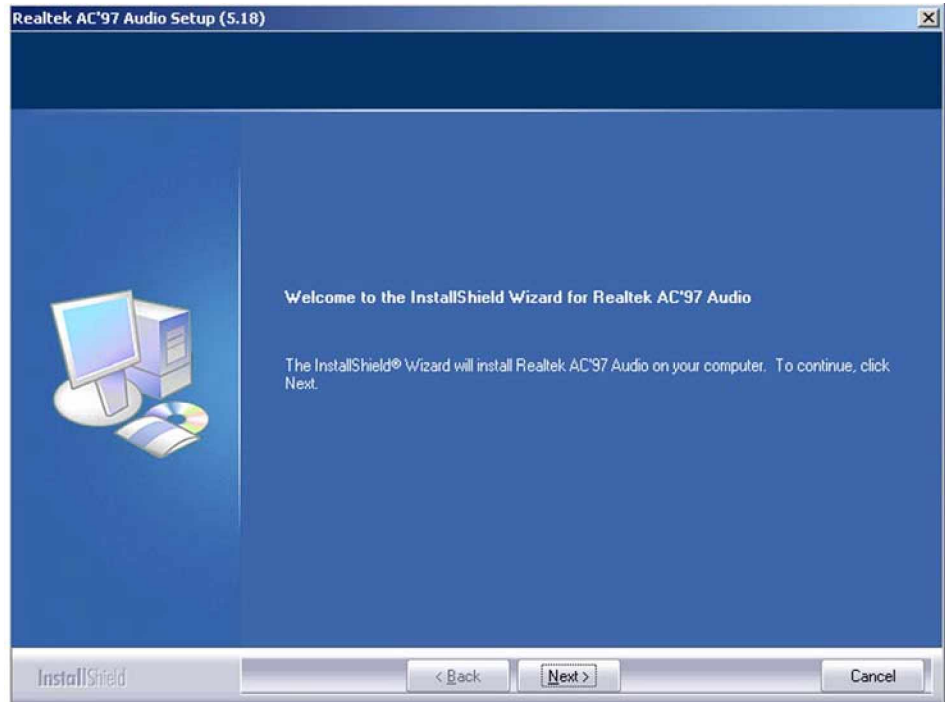
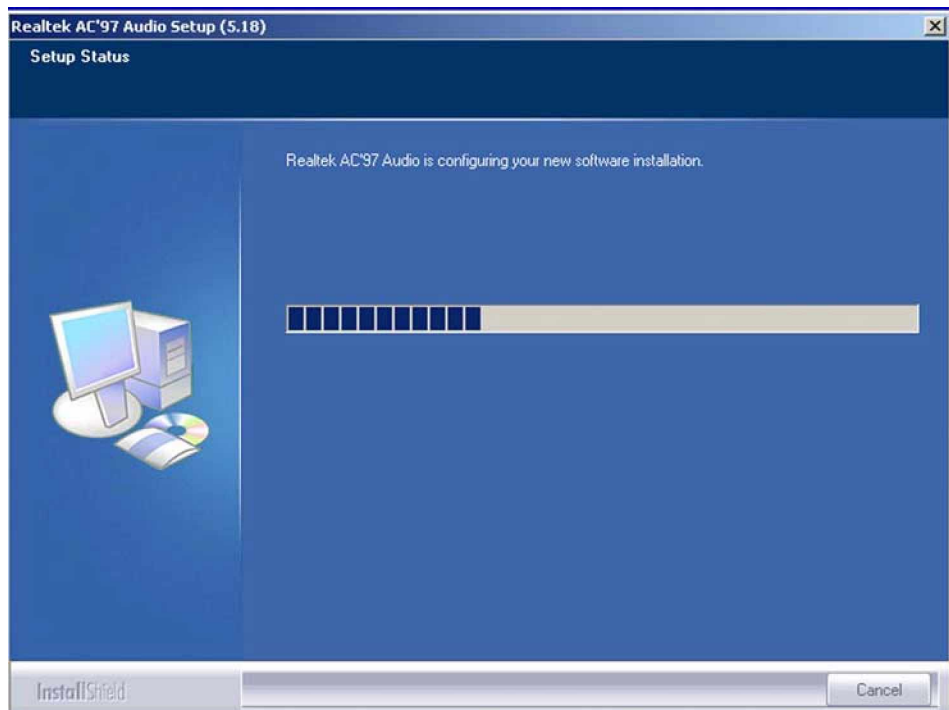

Figure 6-14: Audio Driver Welcome Screen
Figure 6-15: Audio Driver Software Configuration
**Step 4:** After install shield is prepared, the welcome screen shown in **Figure 6-14** appears. To continue the installation process, click the "**NEXT**" button. The install shield starts to configure the new software as shown in **Figure 6-15**.